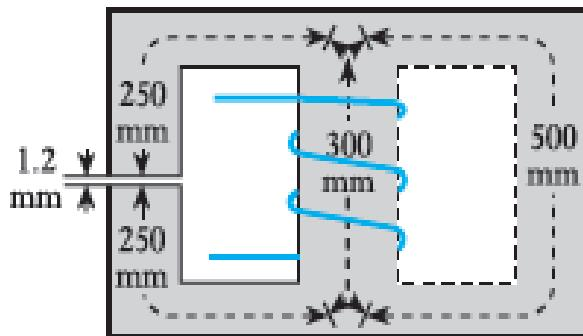

Figure:3
Q.4 A magnetic core made of mild steel has the dimensions shown in Fig. 3. There is an airgap 1.2 mm long in one side limb and a coil of 400 turns is wound on the centre limb. The cross-sectional area of the centre limb is 1600 mm2 and that of each side limb is 1000 mm2. Calculate the exciting current required to produce a flux of 1000 µWb in the airgap. Neglect any magnetic leakage and fringing. [5.85 A]